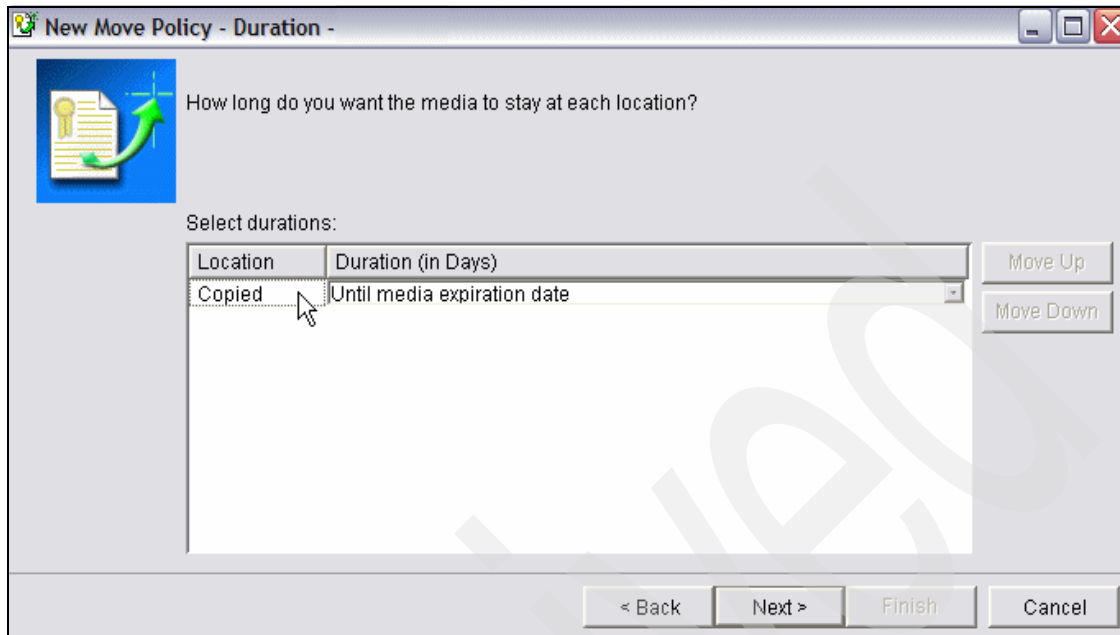

Figure 7-7 Specify days at each location
5. Ensure that Duration states **Until** media expiration date, and click **Next**, as shown in Figure 7-7 on page 339.